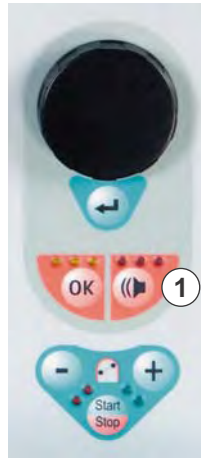

Fig. 9-2 *Alarm* key with red LEDs
Additionally, an active alarm is indicated by the red LEDs lighting above the *Alarm* key (Fig. 9-2, ①).